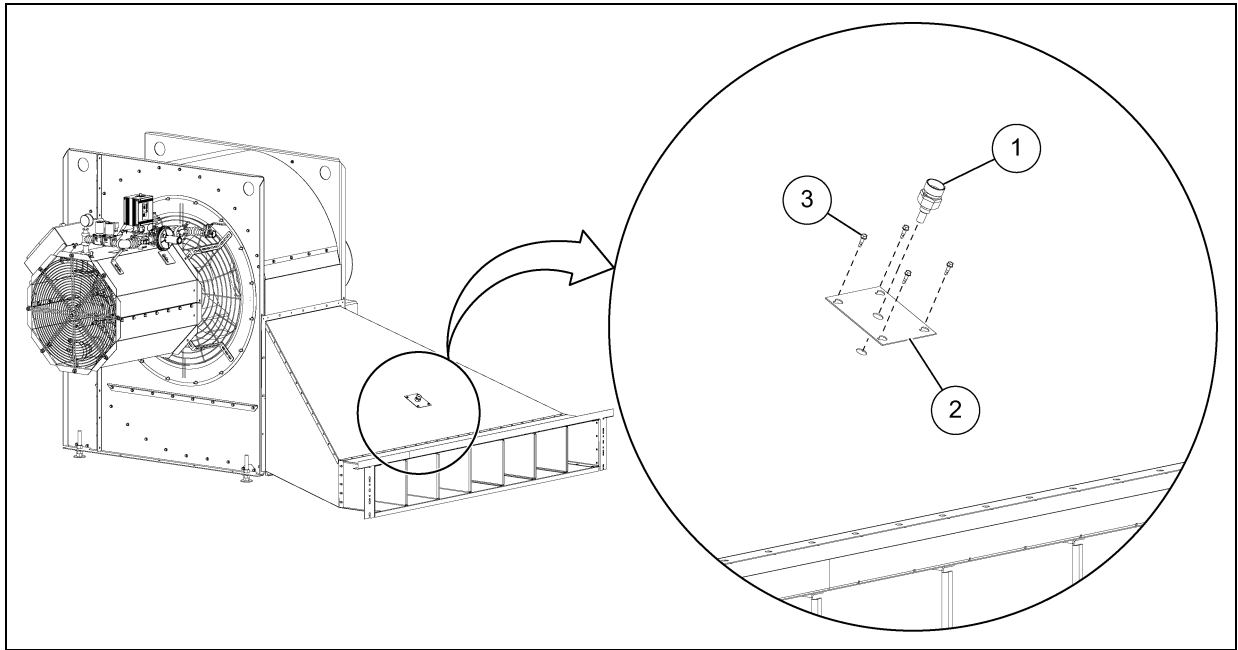

Figure 4F Transition High-Limit
3. Place transition high-limit (1) and attached with self-drilling screws (3) . (See Figure 4F.)